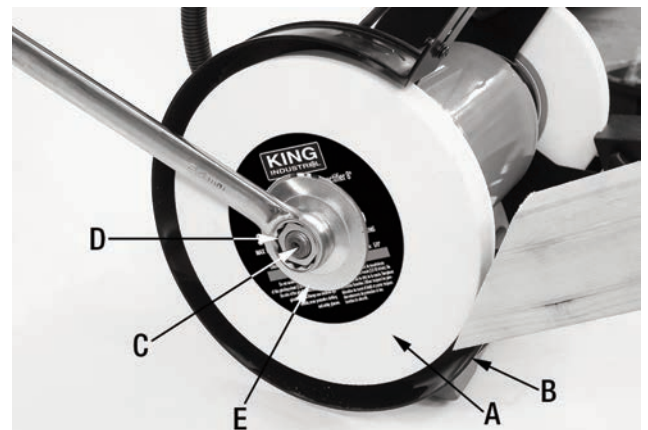

FIGURE 11
2. Use a piece of wood to wedge the grinding wheel (A) Fig.11 against the grinding wheel guard (B) to prevent the shaft (C) from rotating. Remove the arbor hex. nut (D) using a 24 mm wrench.
NOTE: The arbor hex. nut (D) Fig.11 on the left side of the bench grinder is left hand threaded (rotate clockwise to loosen). The arbor hex. nut on the right side of the bench grinder is right hand threaded (rotate counterclockwise to loosen).
3. Remove the outer flange (E) and slide off the old grinding wheel (A).
4. Make sure the inner flange is in position, then install the new grinding wheel. Secure it with the outer flange (E) and arbor hex. nut (D).